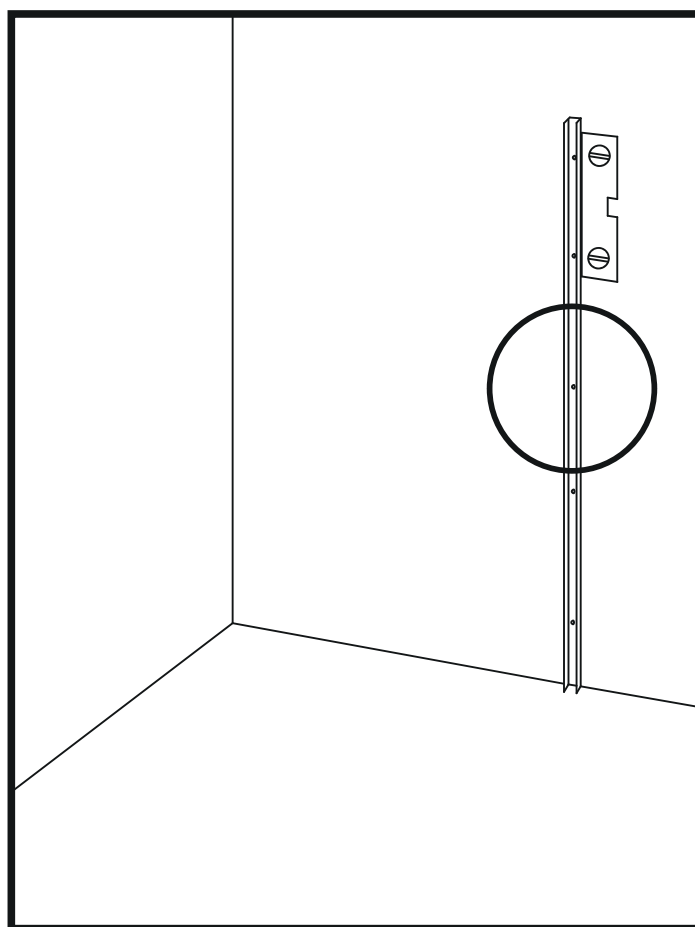

Figure 2
2. Using a level, place the hinge profile vertically on the wall so that the edge is flush with the floor. (Figure 2)